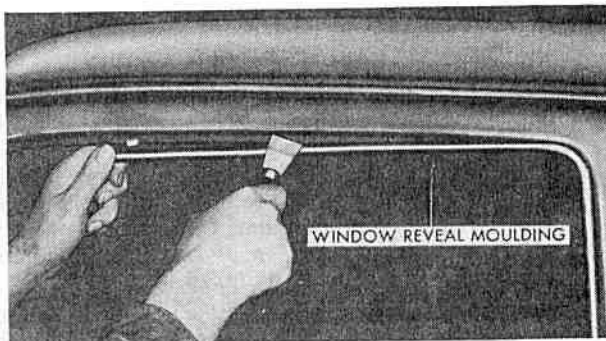

FIG. 19
**WINDOW REVEAL MOULDING** To remove the window reveal moulding, release the clips with a dull putty knife or similar tool and pry the moulding loose from the door (see Fig. 19). Be careful not to mar the finish.